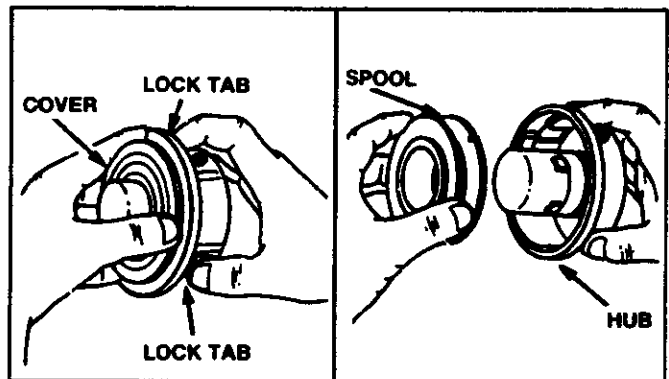

Figure 21
INSTALLING PRE-WOUND SPOOL (Fig. 21, 22, 23, 24, & 25)
- Hold the semi-automatic head as shown. Press the two lock tabs and remove cover. Figure 21.